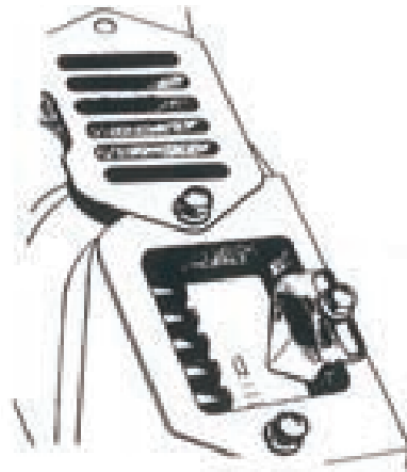

Figure 2-5 Scale lines and pointers on the flywheel
3) Before adjusting the valve clearance, first remove the cylinder head cover. Rotate the crankshaft to align the pointer on the flywheel housing inspection window with the timing "0" mark on the flywheel (as shown in Figure 2-5). During operation, ensure the pointer remains undistorted and stays between the two limit lines on the flywheel housing. At this stage, both cylinders 1 and 6 in V-type diesel engines with 6-cylinder and 12-cylinder configurations will be at top dead center.